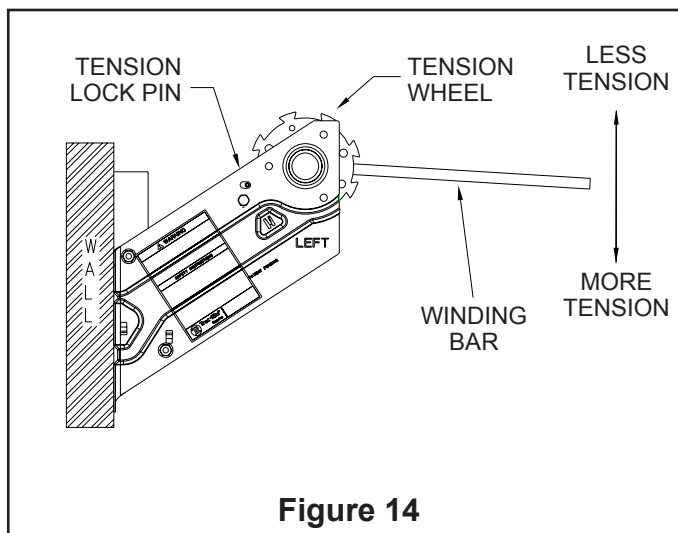

Figure 14
10.2 To add tension, insert winding bar in the rectangular hole in the tension wheel and pull down until ratchet clicks. Move up slightly until ratchet locks in place (See Figure 14). If more tension is needed, move winding bar to the next hole in the tension wheel and repeat as necessary.